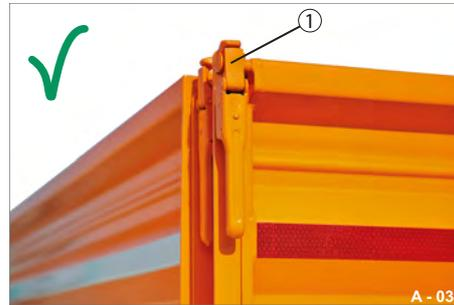

Fig. 42 Rear platform gate secured
- ▶ Close the locks (Fig. 42/1) one after another.